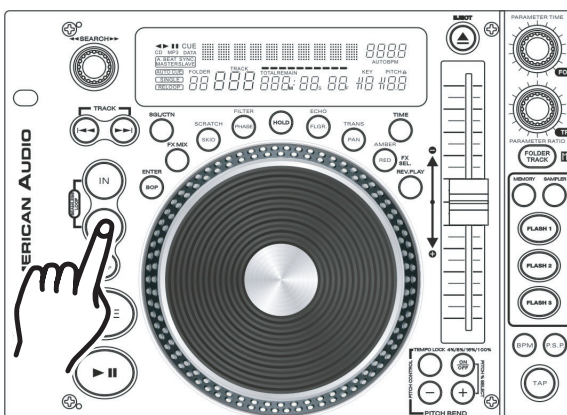

Figure 19
REPLAY LOOP - The **RELOOP (1)** function allows you to return to your stored loop at any time. The **IN BUTTON (33)** and **OUT BUTTON (2)** LEDs will indicate a loop is stored in memory, and may be played at any time. To replay the loop, press the **RELOOP BUTTON (1)**. The **IN BUTTON (33)** and **OUT BUTTON (2)** LEDs will again begin to flash indicating SEAMLESS LOOP mode has been activated (Figure 19) and your stored loop will immediately begin to play.
- 2) Press the **OUT BUTTON (2)** again when you reach your new ending point (Figure 19).
- **FOR A SHORTER LOOP:** Press the **OUT BUTTON (2)** at sooner point in the track (Figure 19).
- **FOR LONGER LOOP:** Press the **OUT BUTTON (2)** at later point in the track (Figure 19).